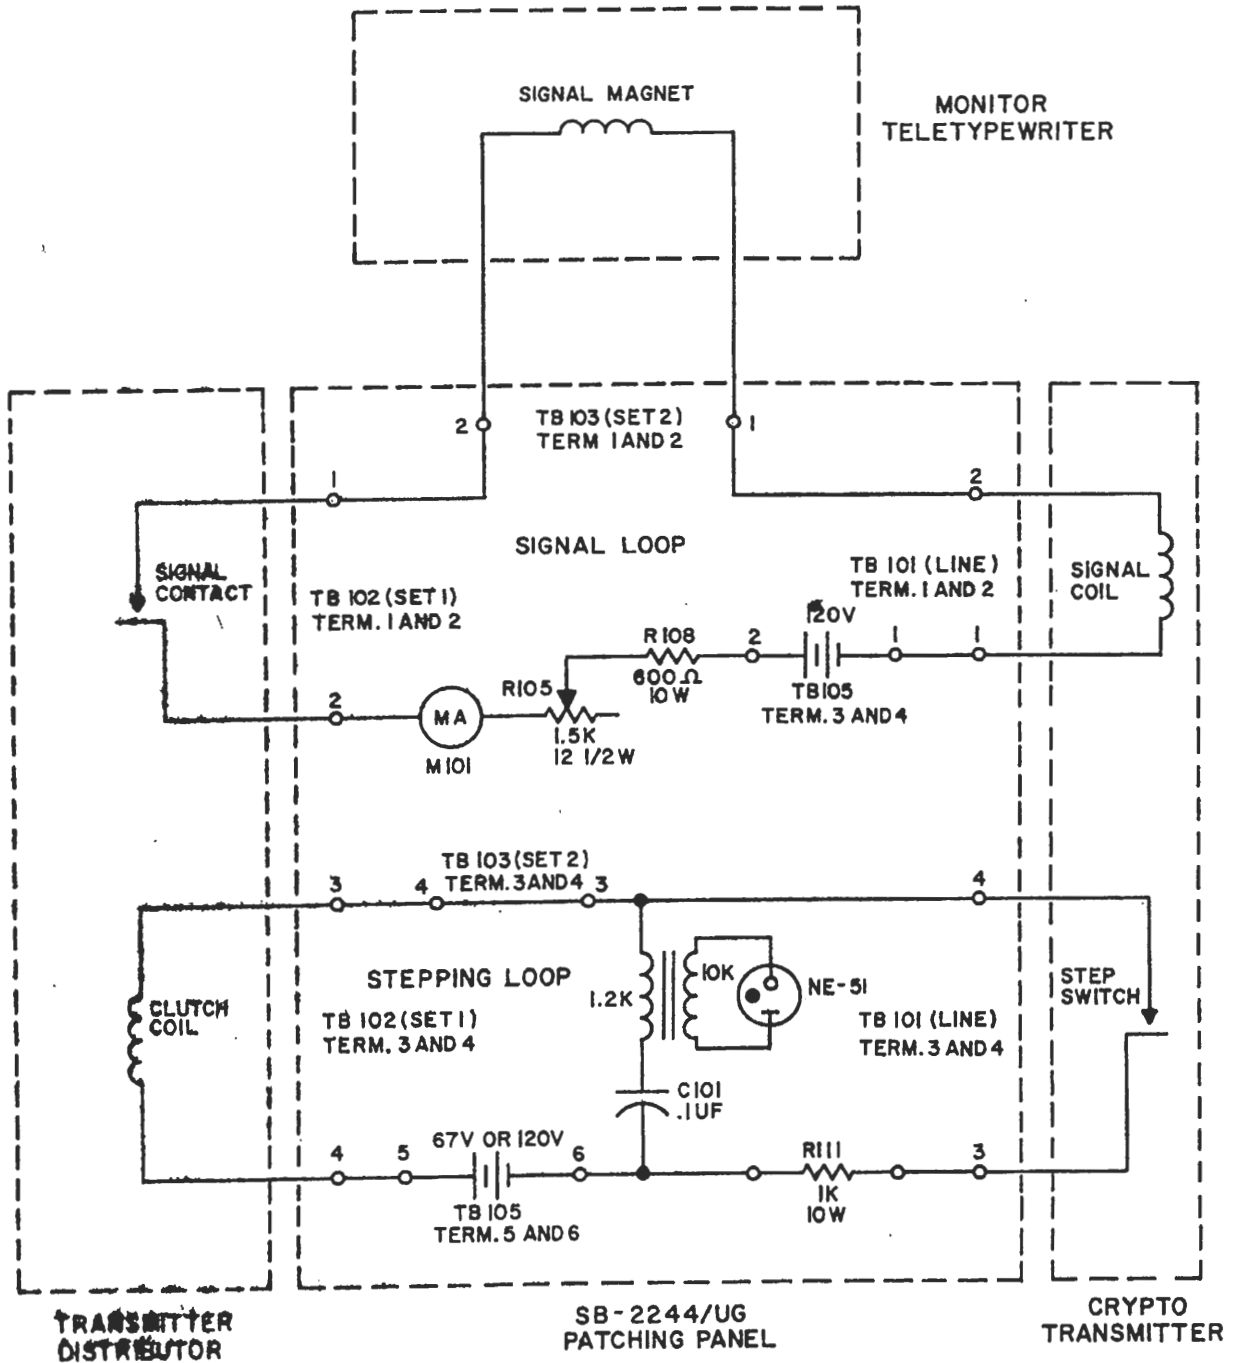
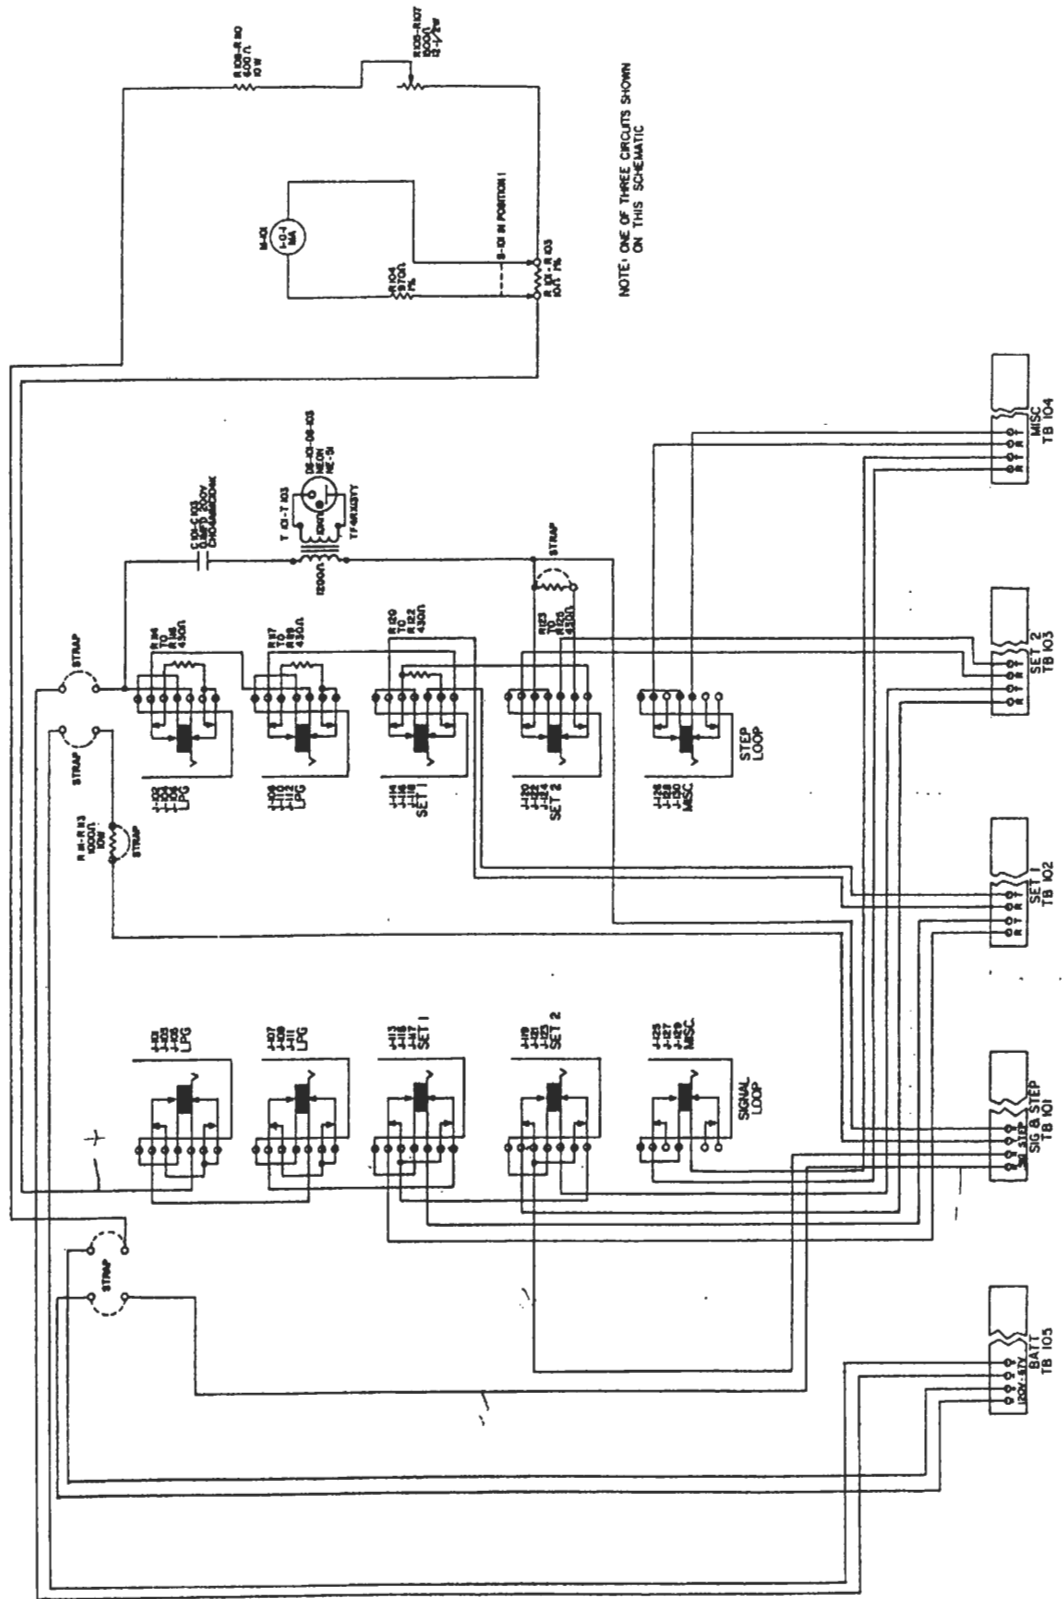

Figure 4-1. Communication Patching Panel SB-2244/UG Simplified Circuit
Figure 4-2. Communication Patching Panel SB-2244/UG, Schematic Diagram - Typical Circuit.
In order to troubleshoot Communication Patching Panel SB-2244/UG, the principles of operation must be understood. A circuit analysis is presented in paragraph 4-2. The diagram shown in figure 4-1 is a simplified form of local battery connections in relation to typical external equipments, for both the signal and stepping loops. The wiring diagram in figure 4-2 is typical for all circuits. Troubleshooting procedures follow the analysis.
Figure 4-1 is a simplified hook-up of the signal and stepping loops in circuit #1, and is typical of all three circuits.
a. SIGNAL LOOP. - The signal input to a cryptographic device is connected across terminals 1 and 2 of terminal board TB-101 (LINE). When a loop does not supply its own line current, provisions are made to connect a local source of 120 volts DC across terminals 1 and 2 of terminal board TB-105. These connections are paralleled across the corresponding terminals of each loop and local current can be connected in or out of each loop by means of removable straps (refer to figure 4-2). The selector magnets of the monitor teletypewriter are across terminals 1 and 2 of terminal board TB-103 (Set 2) while the signal contacts of the transmitter-distributor are across terminals 1 and 2 of terminal board TB-102 (Set 1). The 600 ohm 10 watt resistor R-108 limits the current of the loop to a maximum of approximately 200 milliamperes. The 1500 ohm rheostat adjusts the current in the loop to a 60 milliamperere reading on meter M-101. One terminal of the rheostat is connected to the tip (T) contact of LPG jack J-101 through the 10 ohm meter shunt resistor R-101 (see figure 4-2). The second looping jack (LPG) J-107 is in series with J-101 and Set 1 jack (J-114). The Set 1 jack is connected to TB-102 (1 and 2) and the Set 2 jack J-120 is connected to TB-103 (1 and 2).
The meter circuit as shown in figure 4-2 is in the signal loop only. This circuit consists of METER M-101, a milliamperere meter movement calibrated 100-0-100 milliamperere, a 970 ohm meter multiplier resistor, and a 10 ohm meter shunt resistor. Meter switch S-101 is used to place the meter into any one of the three signal loops, or to remove it from the loop in the "0" position. This completes the signal loop.
Patching or transfer of a teletypewriter is done by inserting a plug into Set 2 jack J-120. The ring (R) and tip (T) of the plug are connected to terminals 1 and 2 of TB-103, respectively, (refer to figure 4-2.) This action connects the plug to the teletypewriter wired into circuit #1. The remainder of the loop is closed and disconnected from the teletypewriter. Therefore, to patch the tele-
b. STEPPING LOOP. - In figure 4-1 a step switch in the cryptograph transmitter is wired across terminals 3 and 4 of terminal board TB-101 (LINE) and the clutch coil of the transmitter-distributor is wired across terminals 3 and 4 of terminal board TB-102 (Set 1). Terminals 3 and 4 of terminal board TB-103 (Set 2) are strapped. This strap is removed only when two transmitter-distributors are to be operated by a single cryptographic device. The second clutch is then wired across terminals 3 and 4. When the step loop does not supply its own line current, provisions are made to connect a local 120 or 67 volt DC across terminals 5 and 6 of terminal board TB-105. These connections are paralleled across the corresponding terminals of each loop and local current can be connected in or out of each loop by means of removable straps, (refer to figure 4-2.) Current in the stepping loop is limited to 50 milliamperes by the 1000 ohm 10 watt resistor R-111, when the local battery is 120 volts DC. If the local battery is 67 volts DC, R-111 must be strapped out (see figure 4-2). Stepping action in the loop is indicated by the flashing of the neon indicator. When the step switch closes in the crypto-device, capacitor C-101 discharges across the primary of transformer T-101. This discharge voltage is stepped up sufficiently in the secondary of T-101 to cause the indicator lamp to flash. The flashing indicator is connected across the first looping jack J-102 and the Set 2 jack J-120 (see figure 4-2). Looping jack, J-102 and J-108 are in series with the local battery supply and the Set 1 and 2 jacks J-114 and J-120. These jacks are connected to terminals 3 and 4 of terminal boards TB-101 through TB-103, respectively. This completes the stepping loop.
When an equipment malfunction is observed, the function of each circuit must be checked before attempting to localize the trouble. If only one function of a circuit is inoperative, the wiring and components solely concerned with that function should be investigated. If two functions of a circuit are inoperative, it is likely that the fault lies in a unit common to both. The visual check shown below must be performed prior to the operational checks given in the troubleshooting chart. During troubleshooting, refer to the wiring diagram, figure 4-2, as necessary.